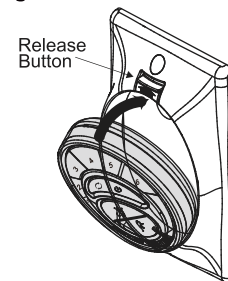

Fig. 19
Step 1. Insert the transmitter into the wall plate by inserting the bottom of the transmitter first and then pressing the top of the transmitter into the pocket. The transmitter will fully function from this location or you can remove the transmitter and use it as a hand held device. (Fig. 19)